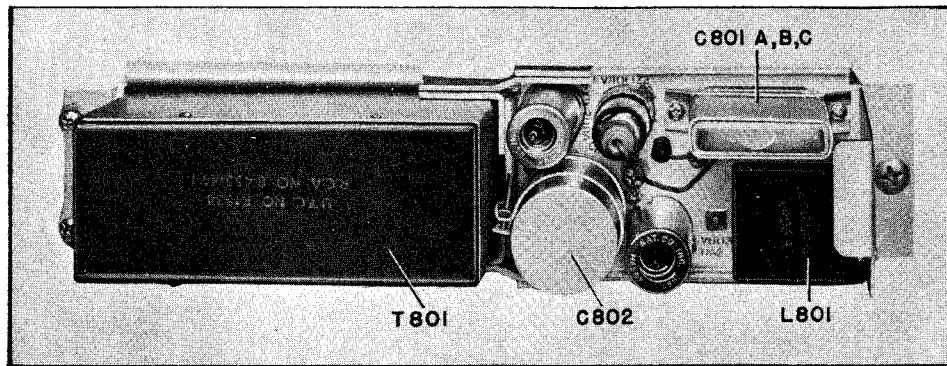

Figure 7-3. Converter Power Supply Chassis, Top View
c. POWER SUPPLIES.—See Figures 7-3 to 7-6 inclusive. First check the resistance values as given in Table 7-8 for the Converter Power Supply and Table 7-9 for the Comparator Power Supply. Measure voltages only when the Power Supply is delivering normal load. The proper load voltages are indicated on the schematic and wiring diagrams, Figures 7-28 and 7-29, for the Converter Power Supply and Figures 7-30 and 7-31 for the Comparator Power Supply.